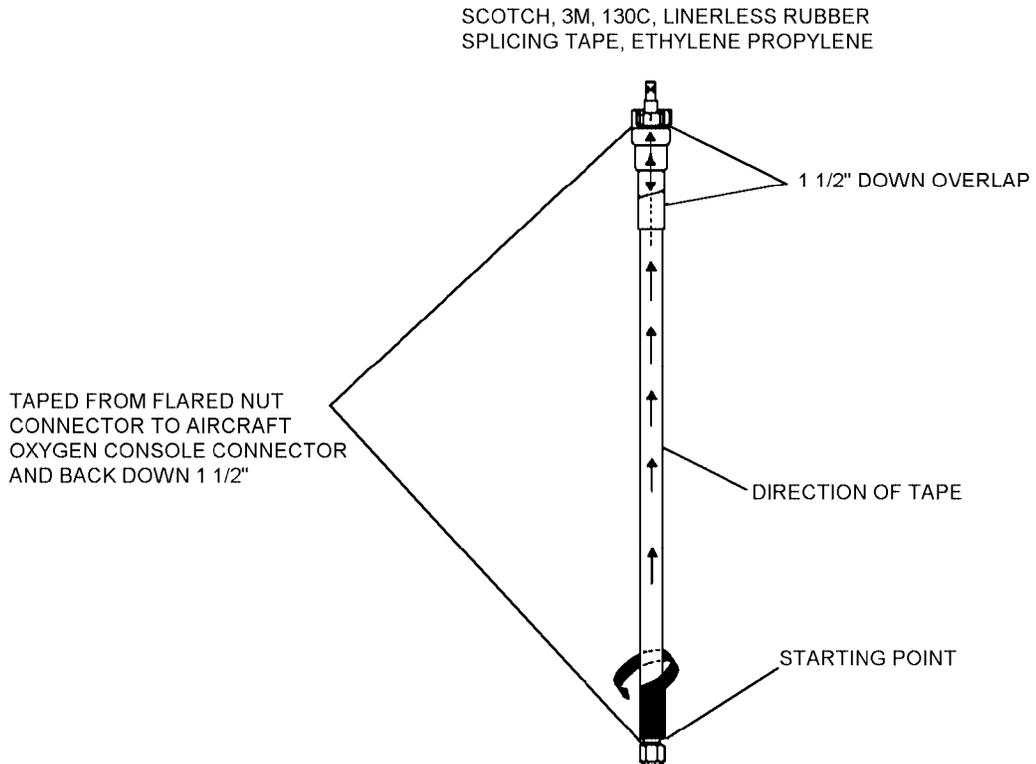

Figure 4-45. Seat Kit to Aircraft Console Hose Assembly Taping
c. Work the tape up the hose to the console disconnect. End taping by wrapping up to console connector and back down over the applied tape 1-1/2 inches (figure 4-45 and 4-46).
c. Work tape up hose to console disconnect. End taping by wrapping up to console connector and back down over the applied tape 1-1/2 inches (figures 4-45 and 4-46).